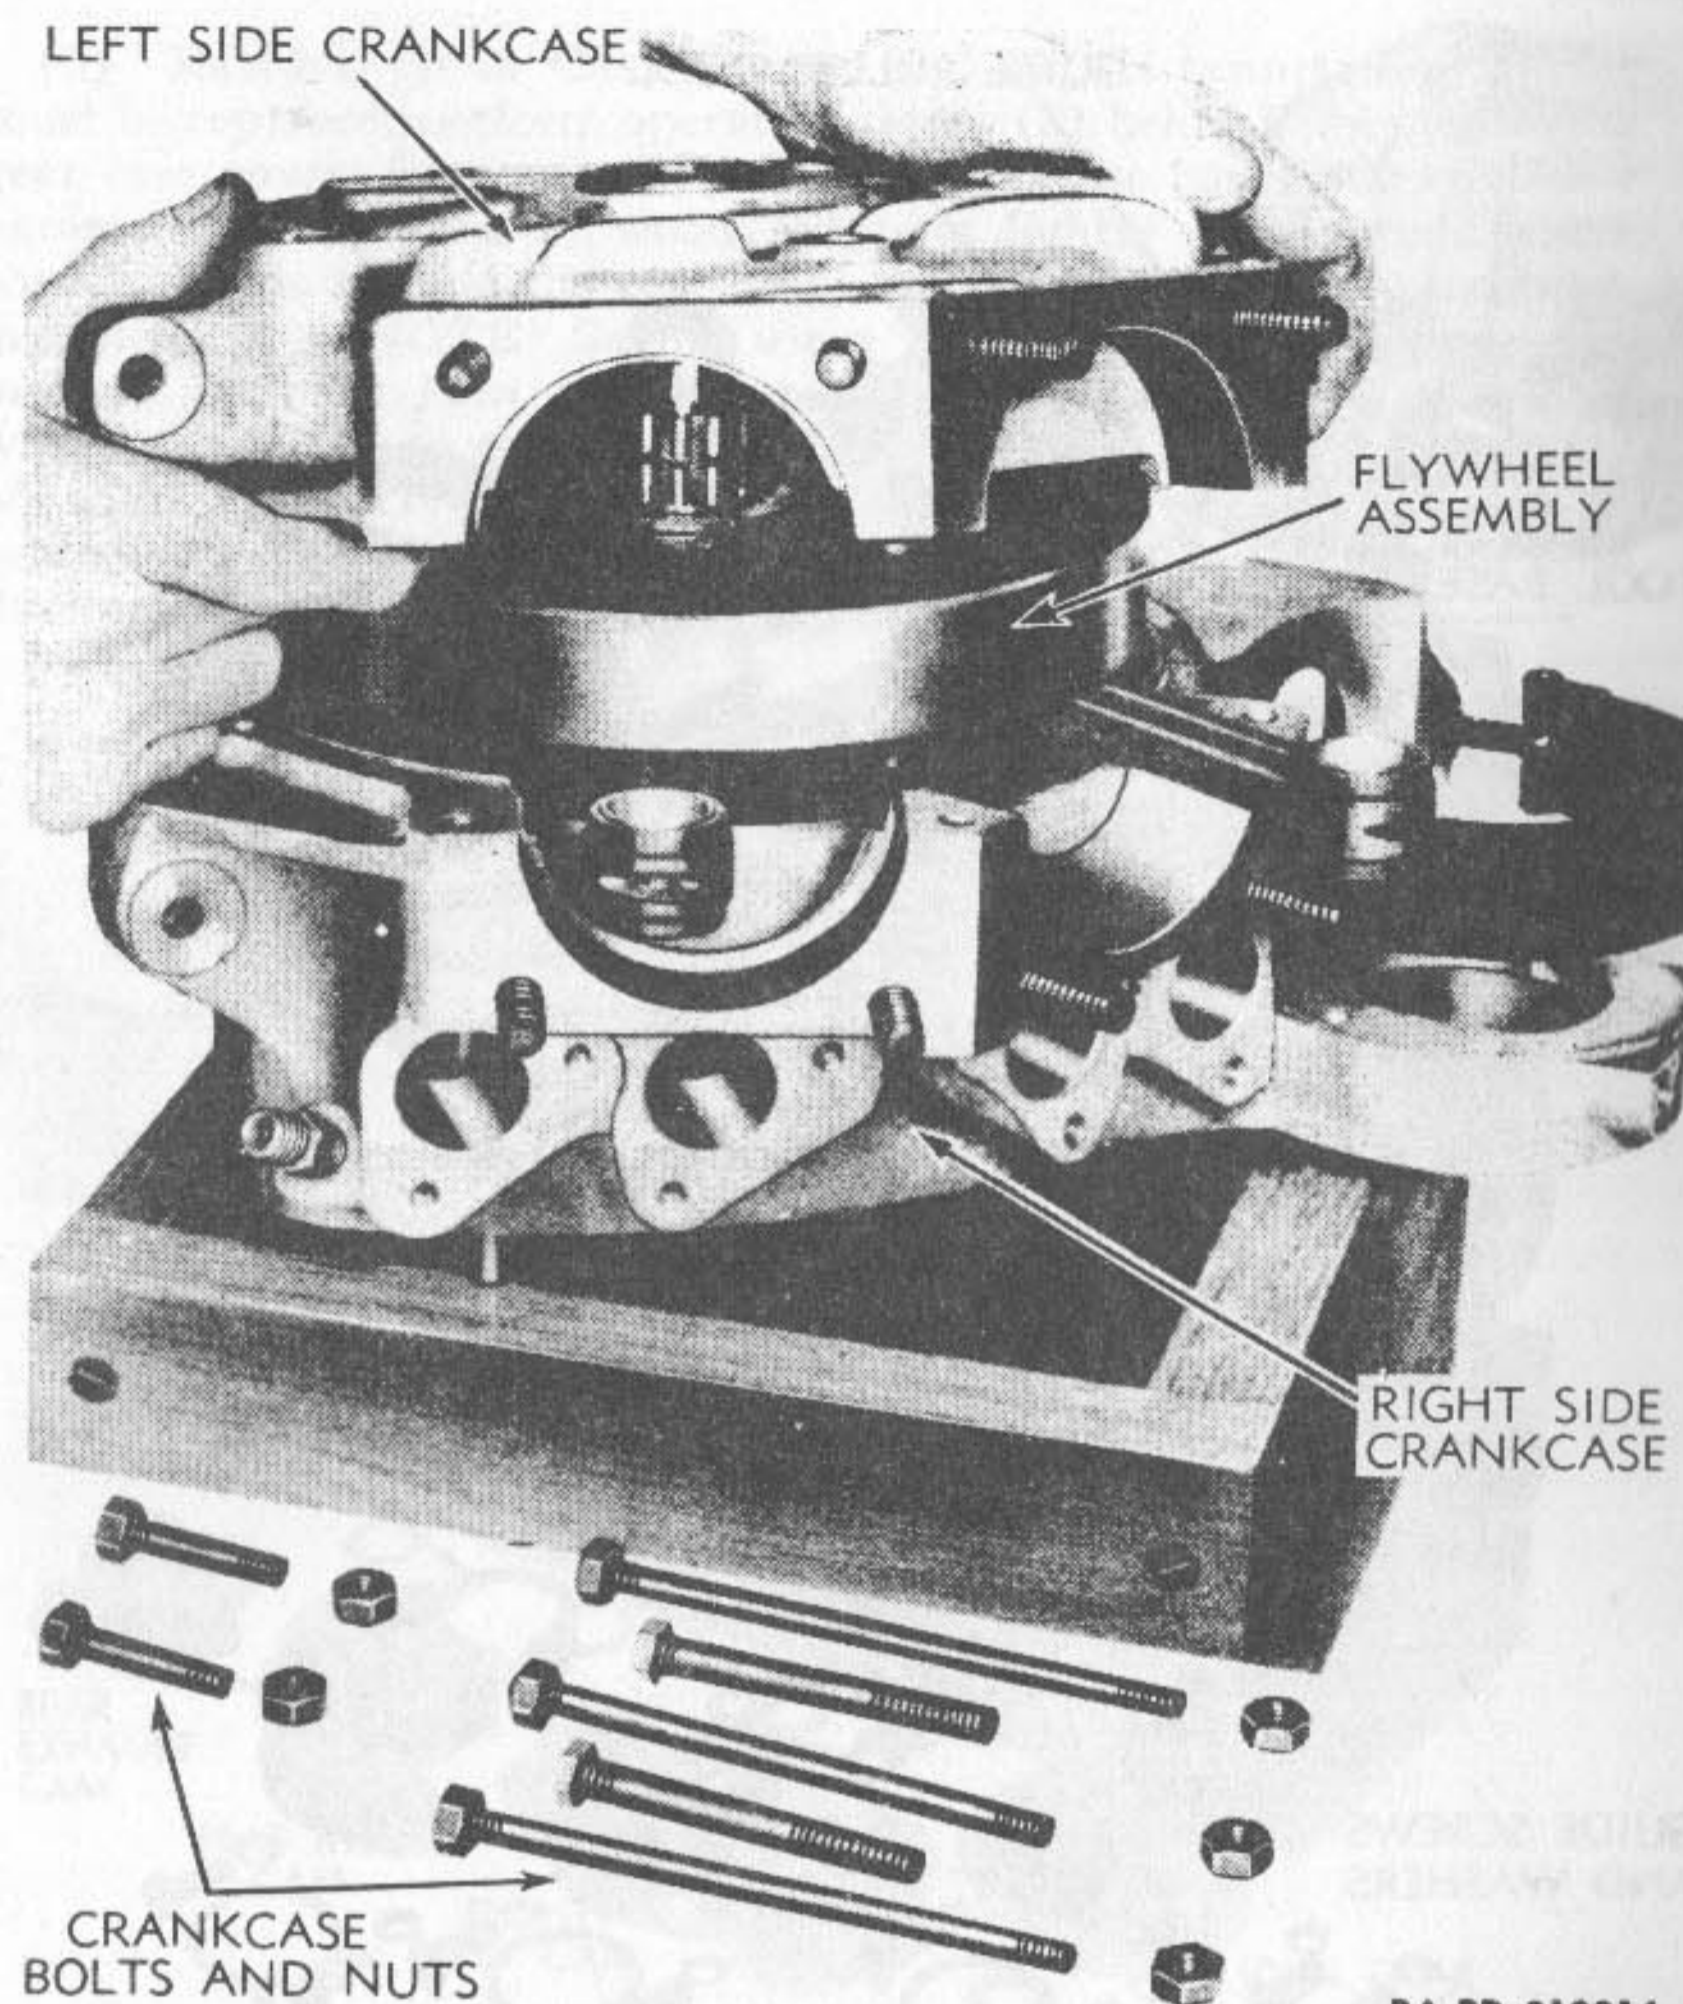

Figure 32—Separating Crankcases
(9) **DISASSEMBLE CRANKCASES** (fig. 32). Crankcases are held together with two cap screws, and five studs with a nut on each end.